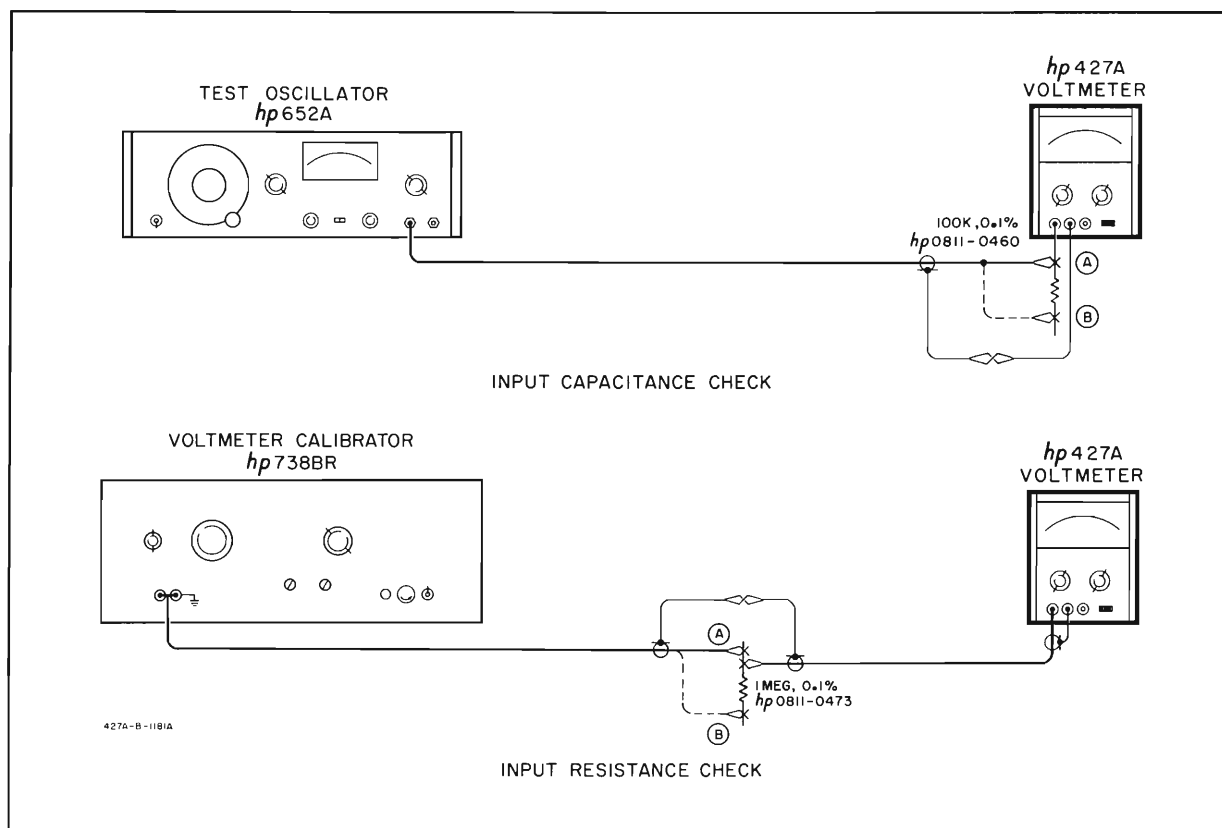

Figure 5-5. Input Impedance Check
5-22. Figure 5-5 shows the setup for the input resistance check. A 1 M Ω resistor is connected in series with the input, and the voltage drop across the input resistance will be:
- a. Connect the Model 427A and the voltmeter calibrator to position A illustrated in Figure 5-5. Set the Model 427A FUNCTION to +DCV and RANGE to 1 V.
- c. Connect the voltmeter calibrator to position B shown in Figure 5-5.
- a. Connect oscillator and Model 427A to position A of the input capacitance check (Figure 5-5), and set the Model 427A FUNCTION to ACV and RANGE to 1 V.